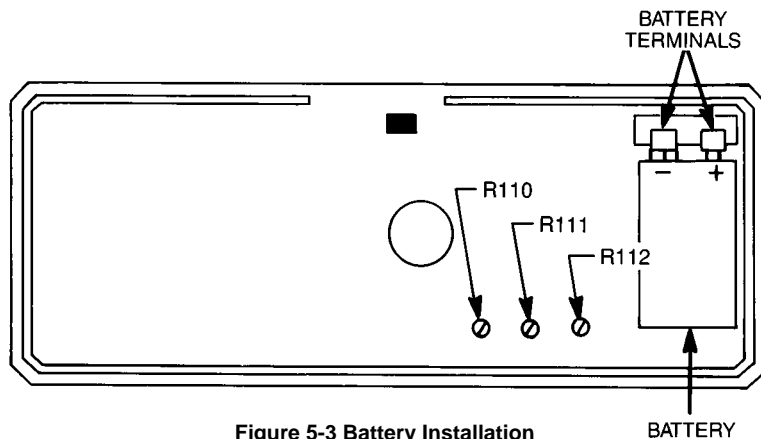

Figure 5-3 Battery Installation
2. Place the battery (MN-1604) in the battery compartment. Observe proper polarity (see Figure 5-3).
See Figure 5-3 above.